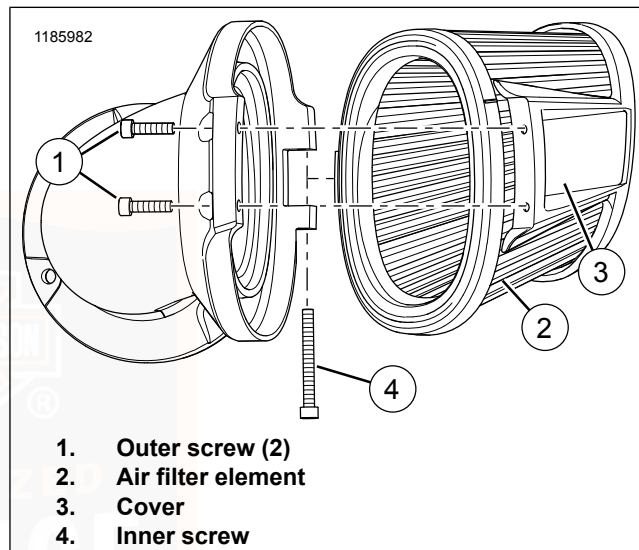

Figure 72. Air Filter: Cone
1. See Figure 72. Remove two outer screws (1).
2. Remove inner screw (4).
3. Remove air cleaner cover (3) and remove air filter element (2).
1. See Figure 72. Install air filter element (2) into cover (3).
3. Install inner screw (4). Tighten. 18–24 **in-lbs** (2–2.7 N·m)
4. Install outer screws (1). Tighten. 18–24 **in-lbs** (2–2.7 N·m)